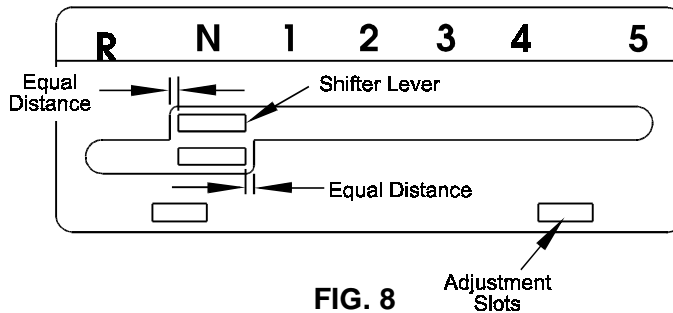

FIG. 8
- c) Shift to neutral position. Lever Should not contact the left edged of the upper slot. Push lever down. Lever should not contact the right side edge of the bottom slot (See Figure 8). Shifter plate can be adjusted side to side to adjust position of lever relative to the slot in plate. Loosen the two bolts securing the shifter plate to the shifter lever legs. Adjust shifter plate and retighten bolts.